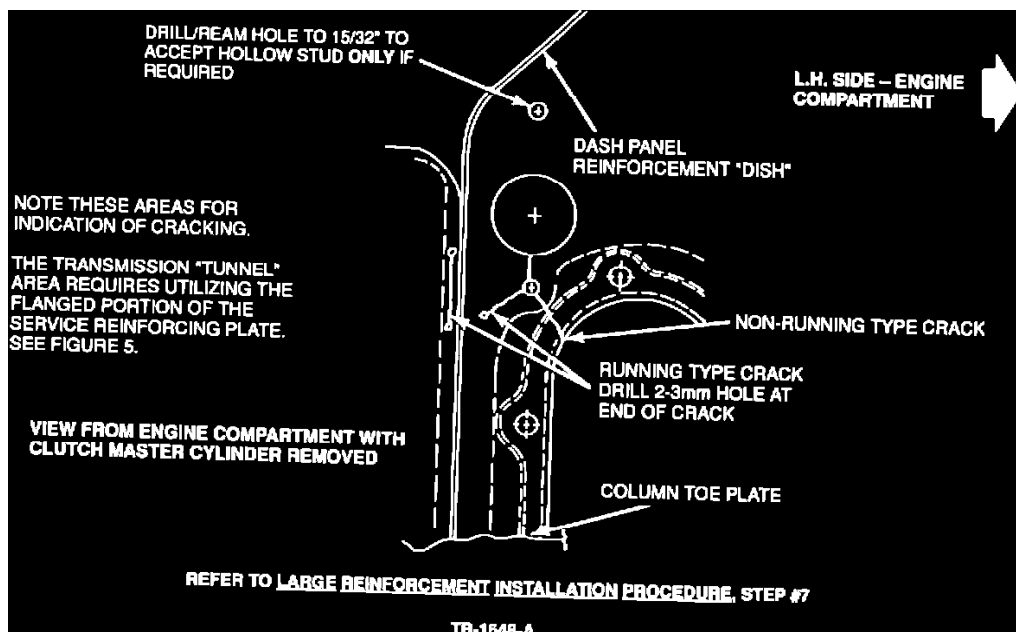

Figure 8
- c. If there are cracks that have not run out, stop them by drilling a 2-3 mm hole at the end, Figure 8.